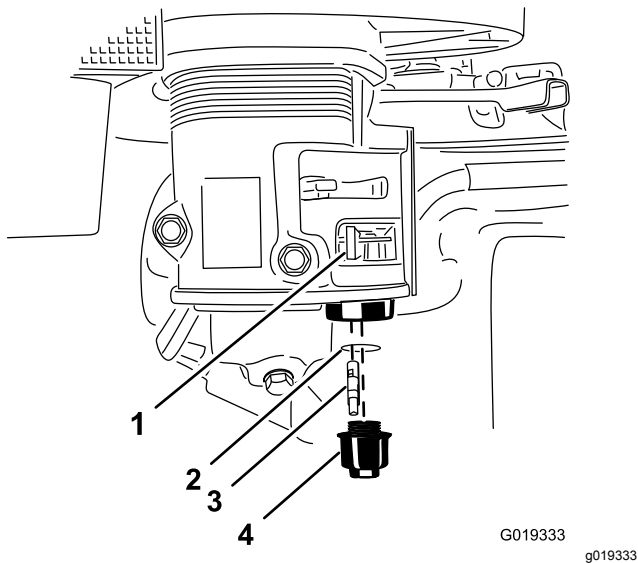

Figure 50
4. Move the lever of the fuel valve to the OFF position, all the way to the left (Figure 50).
5. Unscrew the fuel-sediment cup (Figure 50).
6. Remove and retain the fuel filter and O-ring (Figure 50).
9. Install the fuel filter in the bottom of the carburetor (Figure 50).